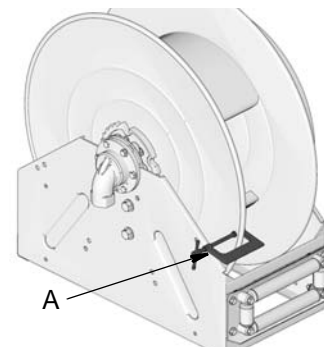

FIG. 49
- c. Securely attach a c-clamp (A) to the reel spool as shown in FIG. 49 to help prevent the reel from unintentionally becoming unlatched and spinning freely.